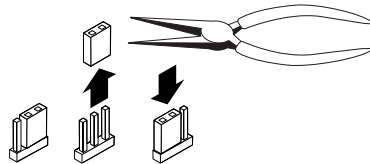

Figure 2-20 — Changing jumper settings
4. Configure the jumpers as defined below. To configure the jumpers, use pliers to pull the jumper shunt off the pins, then place the jumper on the appropriate pins (figure 2-20).